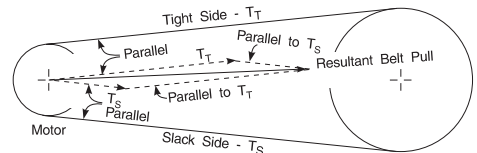

Figure 34 – Graphical Addition of T_T and T_S
- A.** If only the magnitude of belt pull is needed, numerical methods for vector additions are faster than the graphical approach. If both magnitude and direction of belt pull are required, the vector sum of T_T and T_S can be calculated by graphical vector addition as shown in Fig. 34. The T_T and T_S vectors are parallel to the tightside and slackside, respectively, and they should be drawn to a convenient scale; i.e. 1 in. = 100 lb.
Fig. 34 shows the vector addition for belt pull on a motor shaft. Use the same procedures to determine the belt pull on the driveN shaft. This graphical illustration method should also be used for drives that have three or more sheaves or idlers.